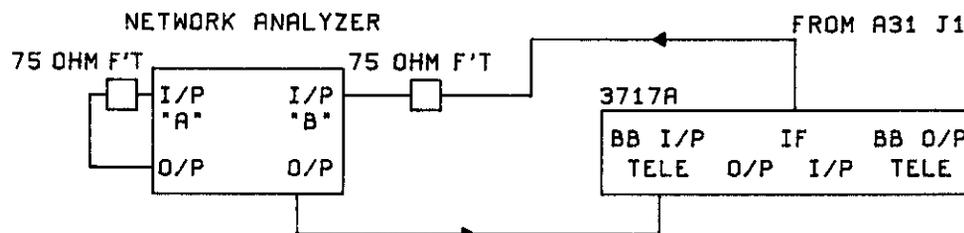

Figure 4-8 Pre-Emphasis Shape Test
5. Connect the equipment as shown in Figure 4-8, and proceed with step 6 for CCIR Networks, step 11 for BELL and step 20 for the VIDEO networks.